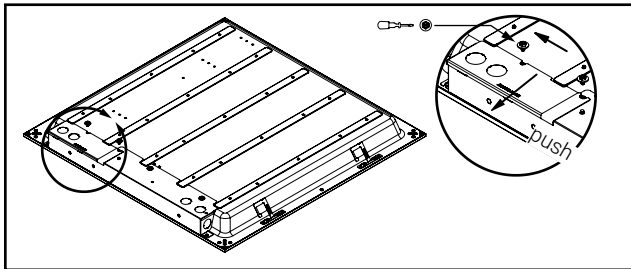

Figure 1.
1. Locate fixture junction box cover and slide to remove it (Fig. 1).